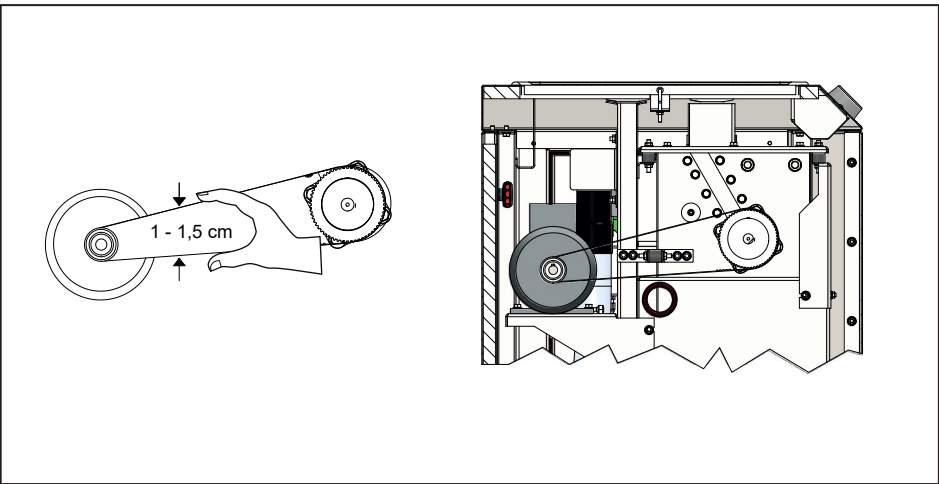

Fig. 8 - 1 Position of drive belt, belt tension check
- Check belt tension as shown in Fig. 8 - 1. When correctly adjusted, the belt can be compressed by 1 - 1.5 cm. If necessary, readjust the belt tension if the value deviates or replace damaged belts